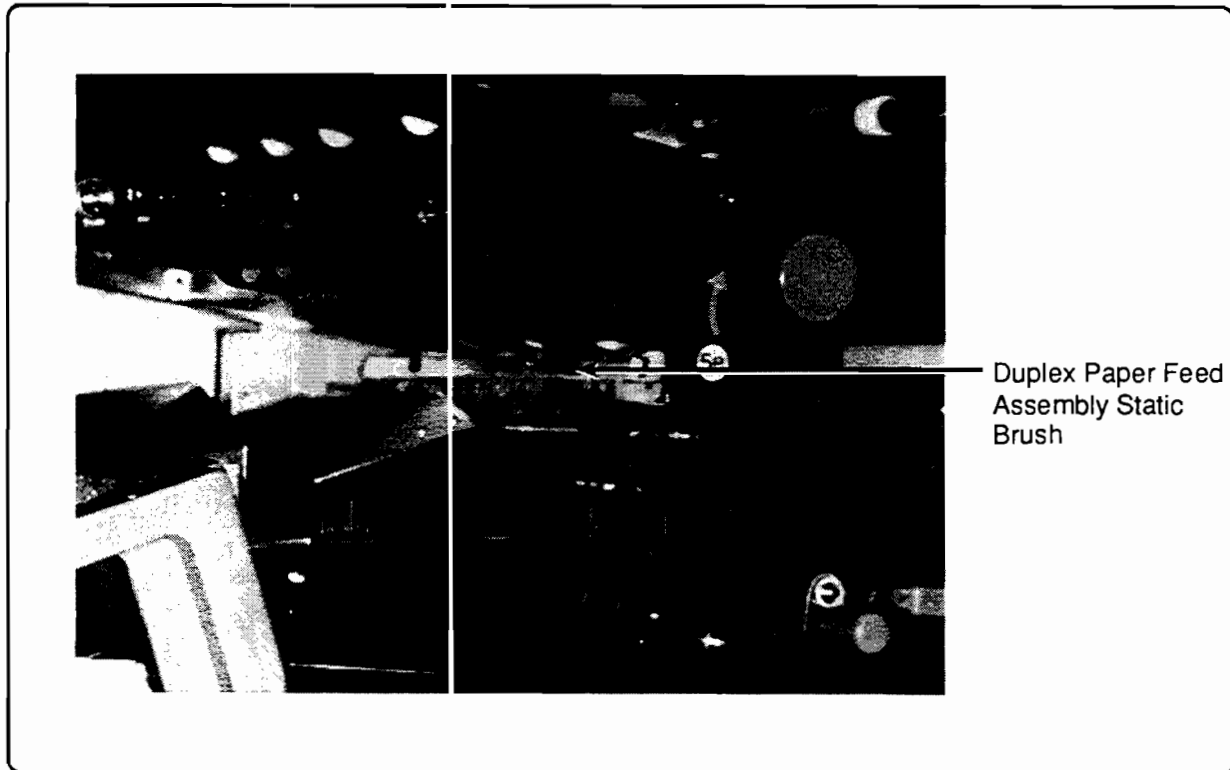

Figure 4-16. Duplex Paper Feed Static Brush
1. Replace duplex paper feed assembly static brush with updated version, P/N RA1-6416-020CN (Service Note 2684-5). Put the part number on the brush and mark it "Updated *mo/year*," so you or another CE will know it has been updated (Figure 4-16). If already updated, inspect for wear and/or missing conductive fibers and replace, if necessary.